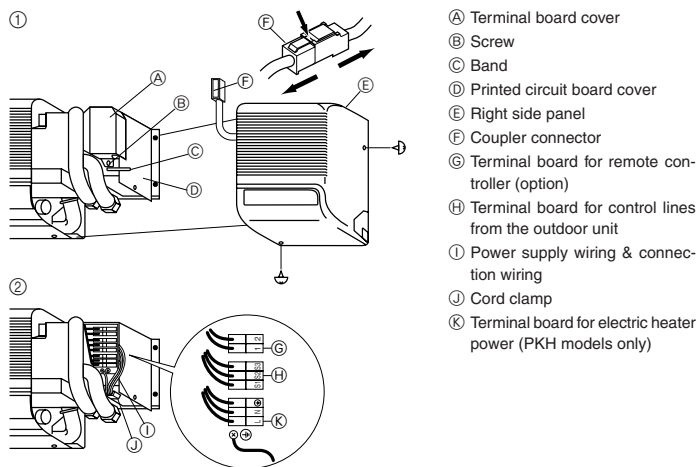

Fig. 6-1
6.1. Indoor unit (Fig. 6-1)
① Remove the right side panel.